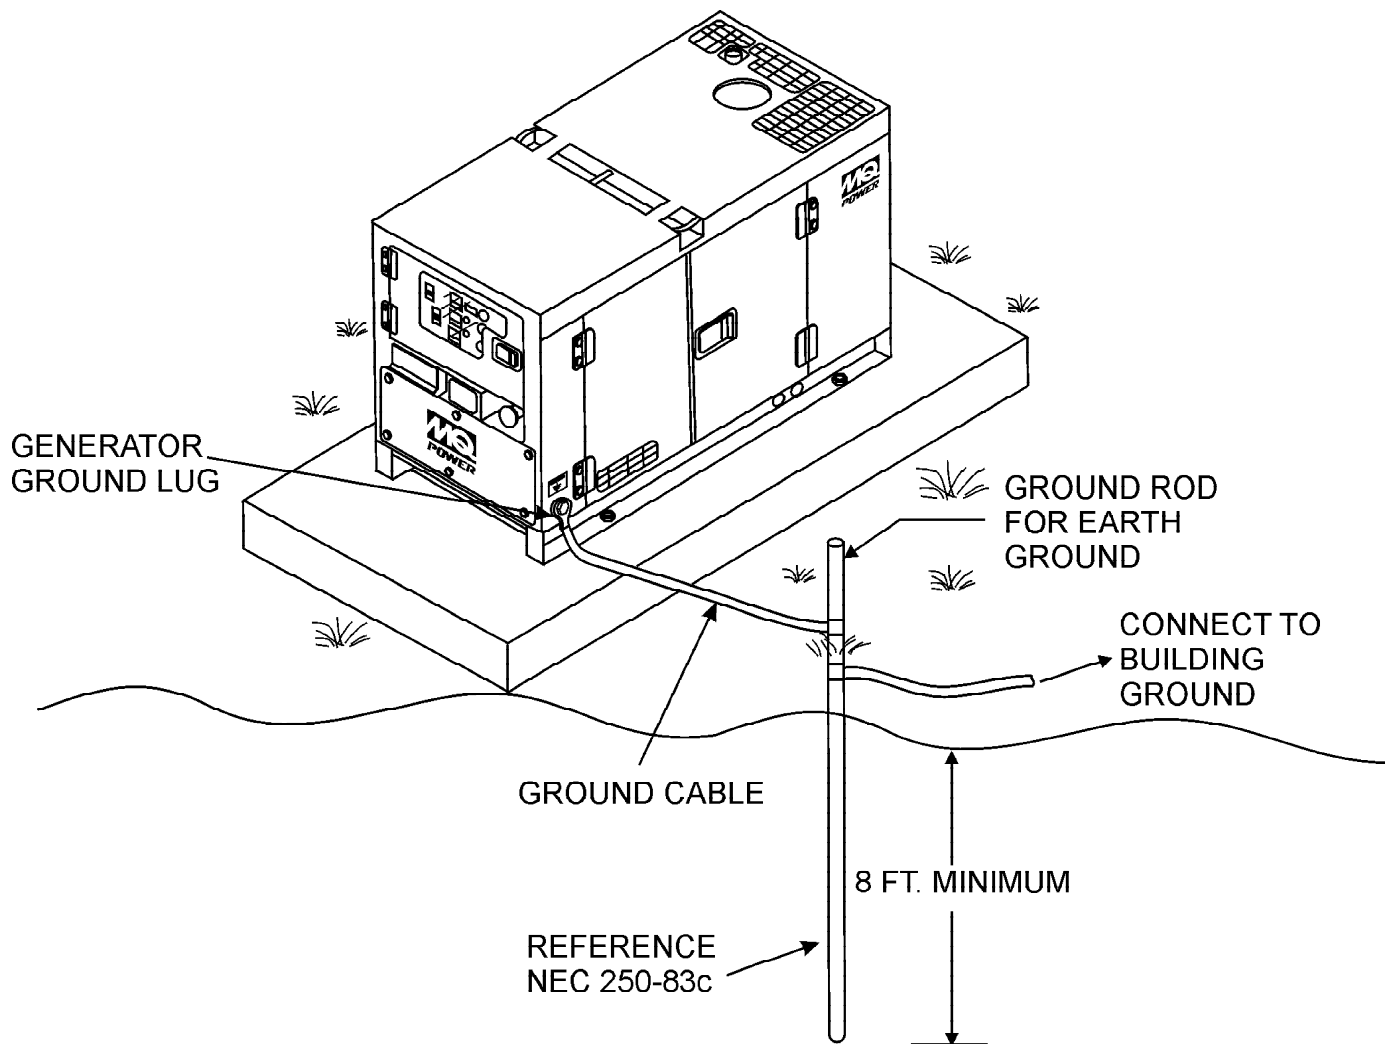

Figure 9. Typical Generator Grounding Application
11. **Oil Check Dipstick** – Measures amount oil in the engine crankcase. Always maintain proper oil level when running the engine. See Figure 9 for proper oil level.
2. When grounding the generator (Figure 9) connect the ground cable between the lock washer and the nut on the generator and tighten the nut fully. Connect the other end of the ground cable to earth ground.